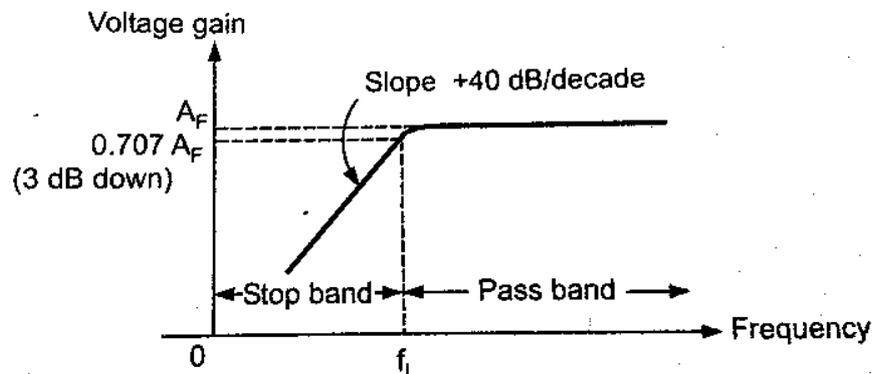

Fig. 3.16 Frequency Response
- The frequency response of this filter is shown in the Fig.3.16.